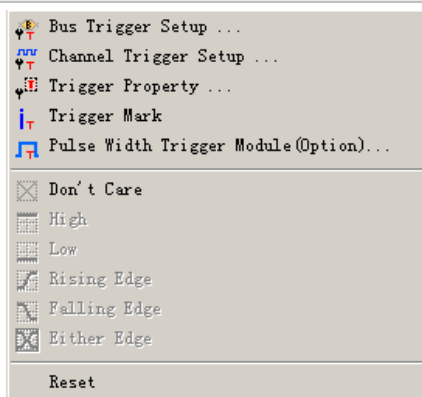

Fig 4-17 -Trigger Menu
Step1. Click  icon or click Bus Trigger Setup and Trigger Mark from the Trigger on the Menu Bar. The menu is shown as Fig 4-17.